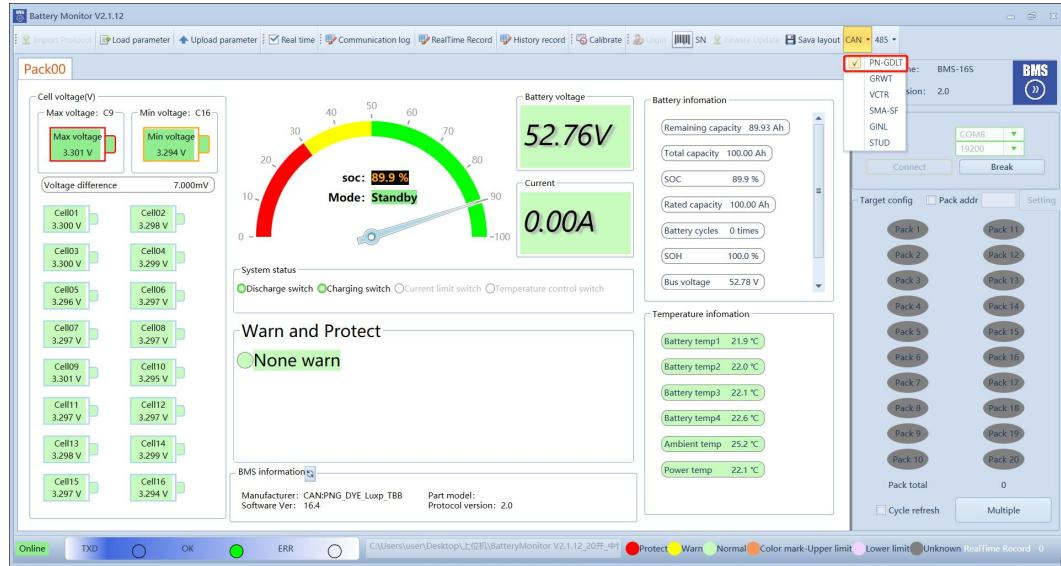

Figure 7-1
- 1) Click the "CAN" drop-down box and select the corresponding CAN protocol according to the inverter type, Figure 7-1